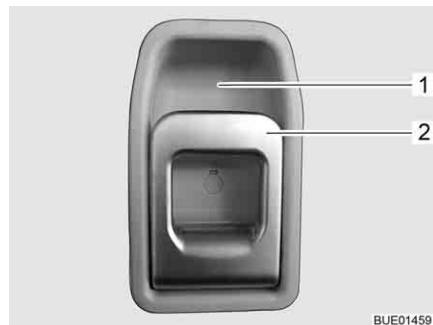

Fig. 40 Door lock of conversion door, inside
- Pull on the handle (Fig. 40,2). The door lock is unlatched.
- Press the upper part of the handle (Fig. 40,2) in the direction of the recessed handle (Fig. 40,1).